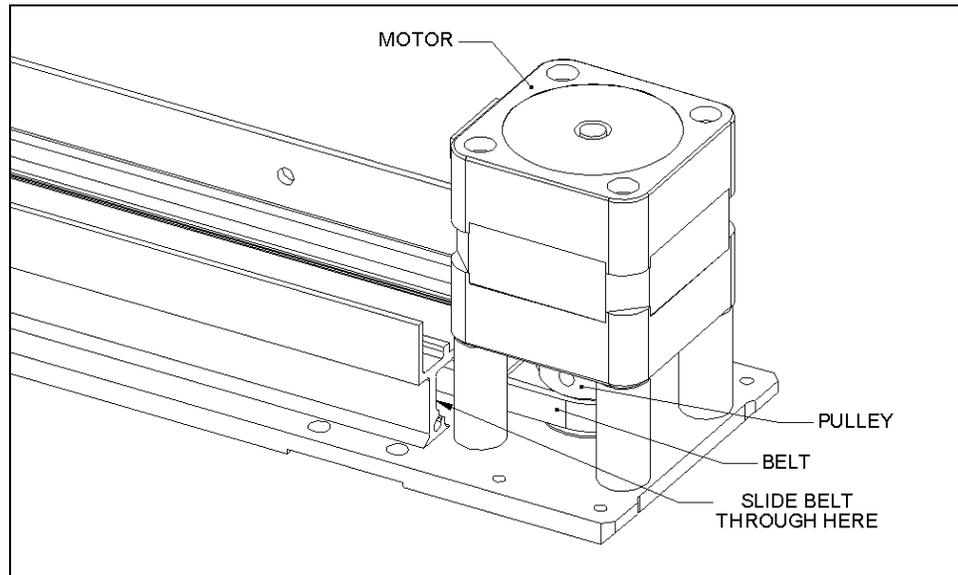

Figure 7-23 Motor Pulley
- 1 If necessary, obtain a new timing belt (Part No. 400000050, 772 mm long). Draw it through the extrusion so that it is around the Idler Pulley and the Motor Pulley (the motor pulley is shown in Figure 7-23).